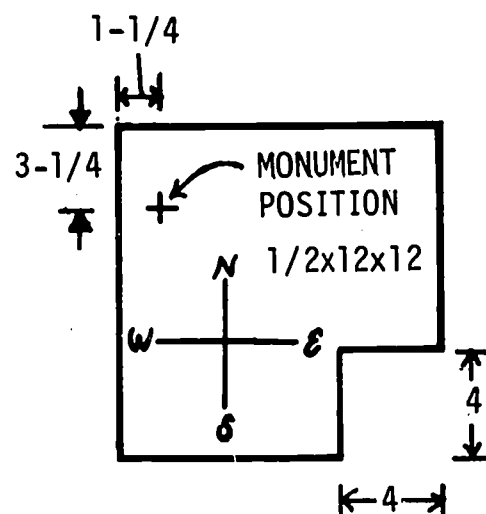

Fig. 11-1. Monument Marker Layout
1. Before class, lay out and cut the 12" x 12" piece of plywood according to the plan. See Fig. 11-1.
3. Draw lines through the monument as shown in Fig. 11-1. The vertical line will designate the north-south axis for the direction circle.